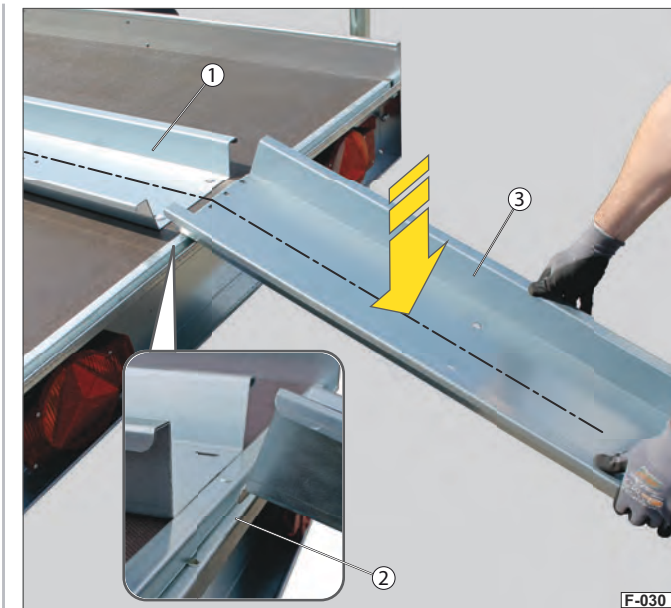

**Fig. 20** Releasing the loading ramp
- ▶ Undo the wing screw (Fig. 20 /2) and remove the clamping bracket (Fig. 20 /1).
- ▶ Unscrew the wing screw (Fig. 20 /3) at the rear.